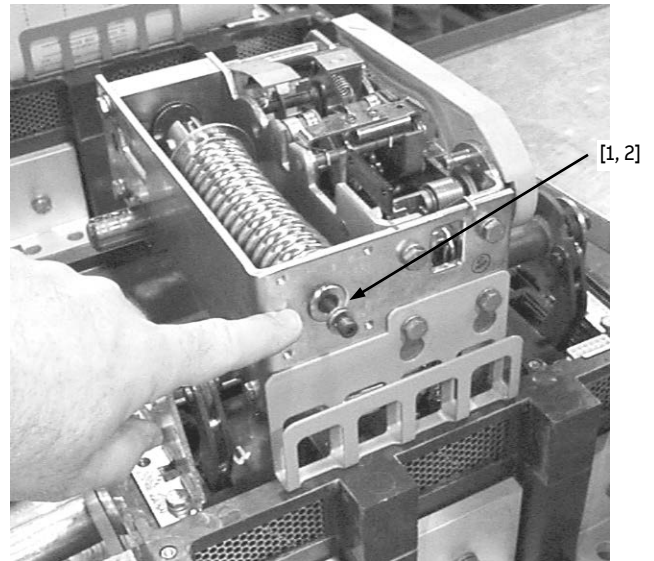

Figure 5: Installing the spring assembly screw.
6. Install the spring assembly screw [1] with spacer [2] at the end of the spring assembly, as shown in Figure 5 with the supplied $\frac{5}{32}$ Allen Wrench tool [6].